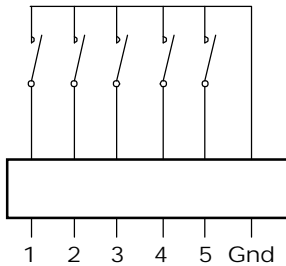

FIG. 22: DRY CONTACT WIRING DIAGRAM
- Step 2. Connect the input wire to some form of dry contact switch. (See Fig. 22)